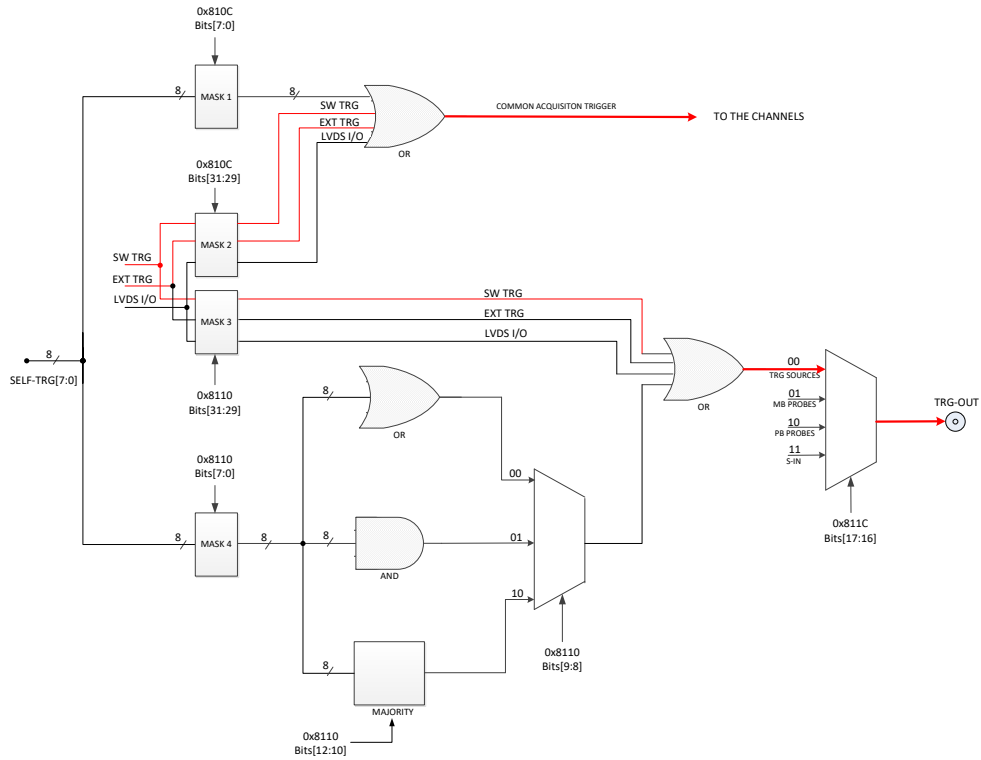

Fig. 9.16: Trigger configuration of TRG-OUT front panel connector.
As described in Sec. 9.9, the OR of all the enabled trigger sources, synchronized with the internal clock, becomes the common trigger of the board that is fed in parallel to all channels, consequently causing the capture of an event. By default, only the Software Trigger and the External Trigger participate in the common acquisition trigger (refer to the red path on top of **Fig. 9.16**).
- the OR of all the enabled trigger sources (only the Software Trigger is provided by default, as in the red path of **Fig. 9.16**);